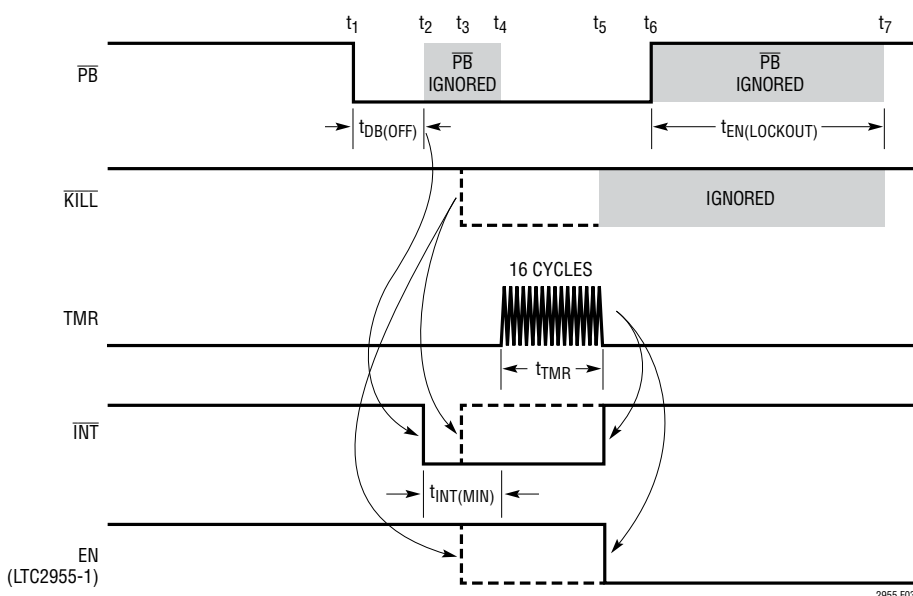
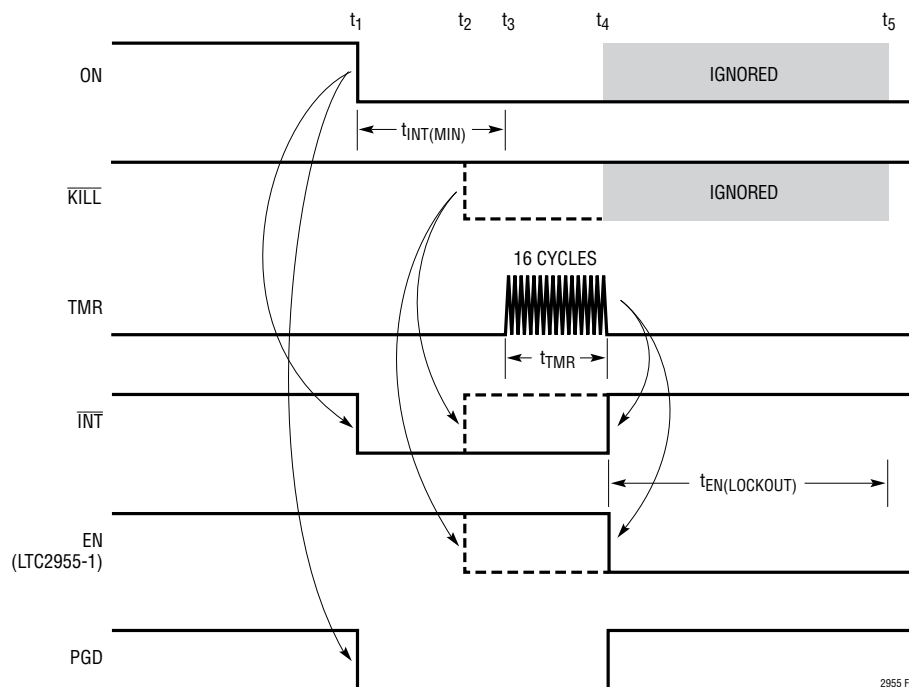

Figure 3. Pushbutton Turn-Off Timing
Figure 5. ON Pin Turn-Off Timing (DFN Only, $V_{SEL} > 1.2V$ and the Preceding Turn-On Sequence Was Initiated by the ON Pin Rising Edge)
Figure 3 shows the turn-off sequence of the LTC2955-1 initiated through the \overline{PB} pin. A turn-off sequence refers to the LTC2955-1 releasing the EN output. This turns off the voltage regulator.
A high to low transition on \overline{PB} (t_1) starts the turn-off sequence. In order to assert \overline{INT} (interrupt output) low, \overline{PB} must stay low continuously for 32ms ($t_{DB(OFF)}$). At the end of the 32ms (t_2), the \overline{INT} pin is asserted low and will stay low for at least 32ms ($t_{INT(MIN)}$), even if the \overline{PB} pin goes high during this period (t_2 to t_4). When the μP receives this interrupt signal, it should start to perform its power-down functions and assert \overline{KILL} low (t_3) once it is done. The LTC2955-1 will then release \overline{INT} and pull EN low, thus turning off the system power, as shown with dotted lines in Figure 3.
high). This can be done by holding the pushbutton down for a long period ($> t_{DB(OFF)} + t_{INT(MIN)} + t_{TMR}$) as shown with the solid lines in Figure 3. If the \overline{PB} pin remains low at the end of the 32ms minimum \overline{INT} pulse width ($t_{INT(MIN)}$), the external timer will start counting (t_4).
After the EN output goes low and the \overline{PB} pin goes high, the LTC2955-1 starts the one second lockout time ($t_{EN(LOCKOUT)}$). During this lockout time (t_6 to t_7 in Figure 3)
Figure 5 shows the turn-off sequence of the LTC2955-1 initiated by the ON pin. The timing sequence is slightly different from that by the pushbutton as there is no debounce time ($t_{DB(OFF)}$) before the \overline{INT} pin pulls low. The ON pin falling edge can start the turn-off sequence only if the following two conditions are met: (1) The preceding turn-on sequence was initiated by the ON pin rising edge, and (2) The SEL pin must be tied high ($>0.8V$). For TS8 package, the ON pin falling edge is ignored.
In Figure 5, a high to low transition at ON (t_1) starts the turn-off sequence. The interrupt output (\overline{INT}) is asserted immediately when the ON pin goes low. Unlike the \overline{PB} pin turn-off sequence, there is no 32ms debounce time ($t_{DB(OFF)}$) for the ON pin going low. This allows the system to initiate a shutdown as soon as the monitored supply is removed and allows the μP the maximum amount of time
to perform power-down functions. The \overline{INT} pin will stay low for at least 32ms ($t_{INT(MIN)}$). When the μP receives this interrupt signal, it should start to perform its power-down functions and assert the \overline{KILL} input low (t_2) once it is done. The LTC2955-1 will then release the EN and \overline{INT} outputs, thus turning off the system power, as shown with dotted lines in Figure 5.
If the μP fails to respond (\overline{KILL} pin remains high, as shown with solid line in Figure 5) and the ON pin remains low after \overline{INT} goes low, the external timer will start counting for 16 cycles (t_{TMR} , t_3 to t_4). If the ON pin remains low at the end of the 16 cycles (t_4), the LTC2955-1 will force the EN pin low and the \overline{INT} pin high. See Applications Information for adjusting t_{TMR} .
The LTC2955 allows the user to force the system power to turn off if the μP fails to respond during fault conditions. As shown by the solid lines in Figure 3 and Figure 5, when the μP fails to bring the $\overline{\text{KILL}}$ pin low after the interrupt signal is asserted, the user can force a turn-off by holding down the pushbutton. The length of time that $\overline{\text{PB}}$ must be held low is given by a fixed 64ms delay ($t_{\text{DB(OFF)}} + t_{\text{INT(MIN)}}$) plus an adjustable power-down timer delay (t_{TMR}). The adjustable delay is set by placing an optional external capacitor on the TMR pin. Use the following equation to calculate the capacitance for the desired delay. C_{TMR} is the external capacitor at the TMR pin: